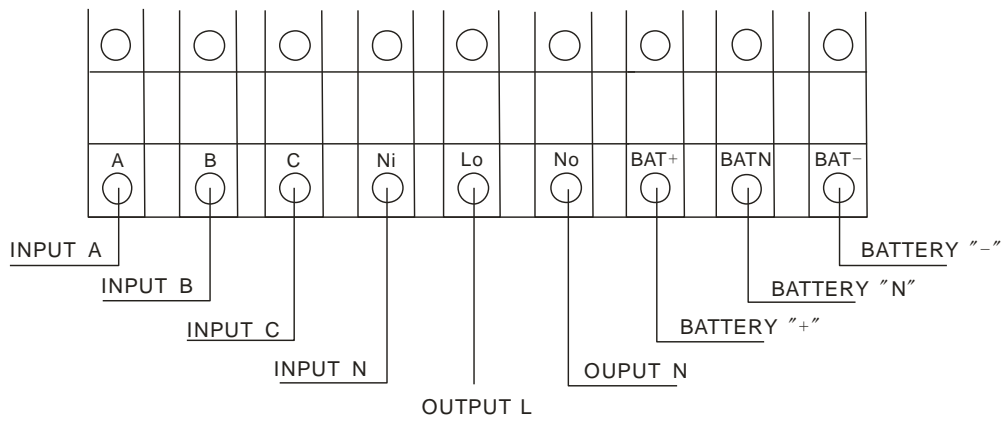

Fig. 5-3 10k/15k/20k I/O terminals connection
2. Remove the cover of the terminals, see Fig. 5-3, and connect the cables correspondingly